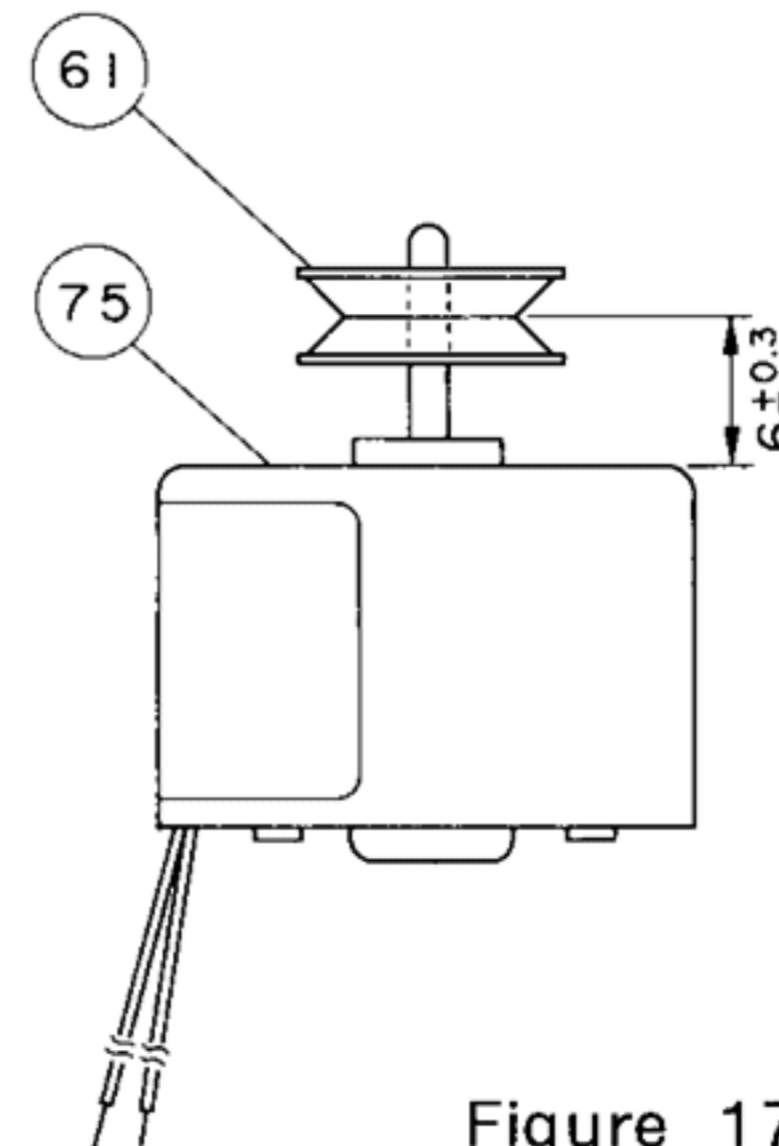
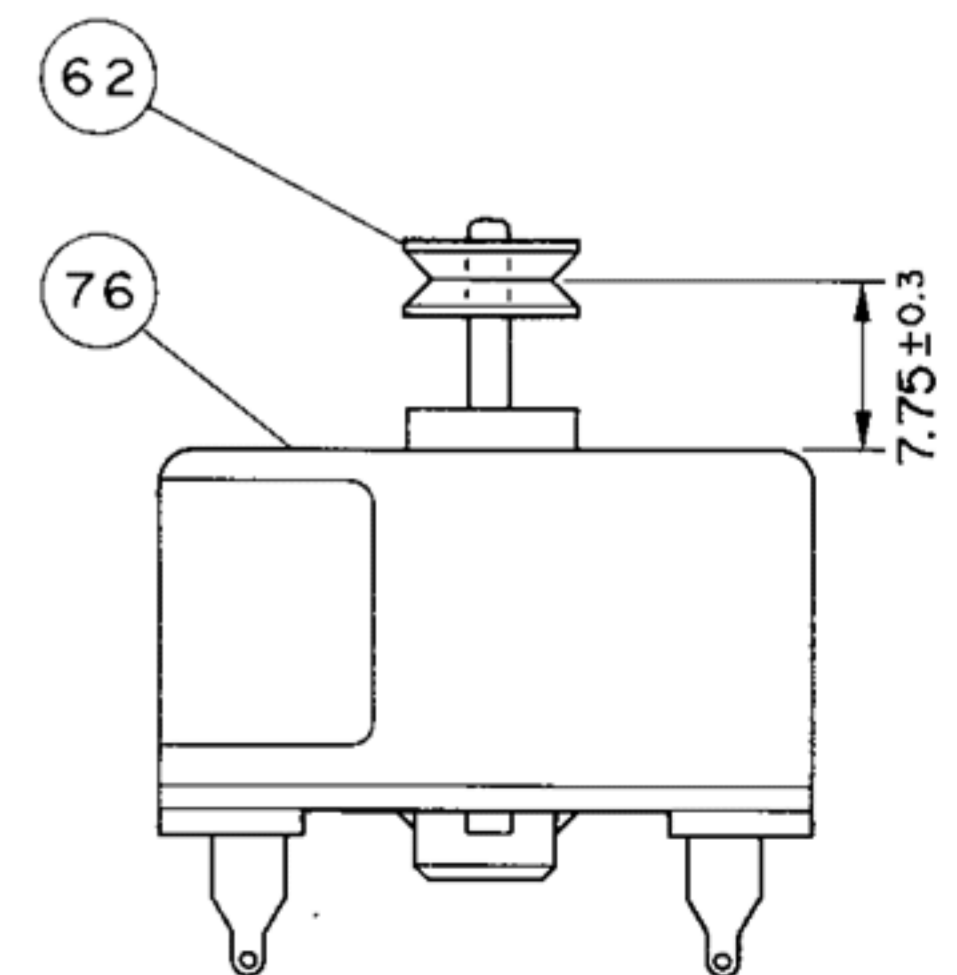

Figure 17
Figure 18
- When the Pulley (61 or 62) is mounted to the Motor (75 or 76), make sure to have the specified clearance between the pulley and the motor referring to Fig. 17 and Fig. 18.